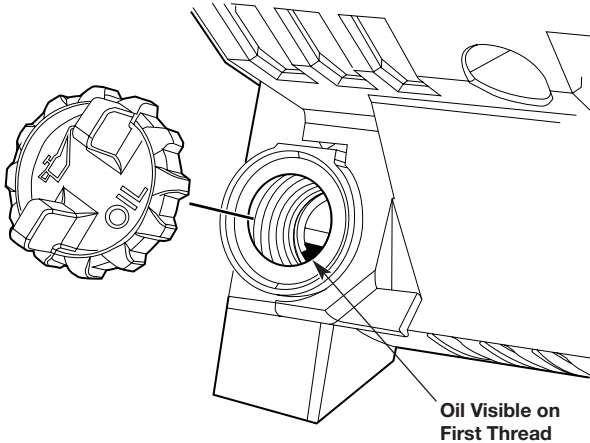

Fig. 20
3. Unscrew the oil fill plug. The oil level should be visible on the first thread of the oil reservoir (Fig. 20). If the oil level is too low, add oil. Refer to Adding Oil.
1. Clean the area around the oil fill plug (Fig. 20) to prevent debris from entering the oil fill hole.
3. Add oil to the oil fill hole until the oil level is visible on the first thread of the oil reservoir (Fig. 20).